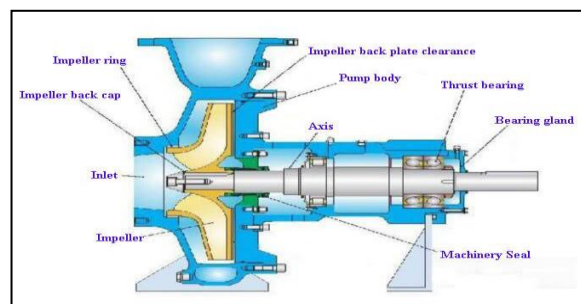

Fig.11 Single stage reciprocating pump
11.2 Calculate the overall efficiency of single stage centrifugal pump. The testing apparatus are shown in fig. 11.